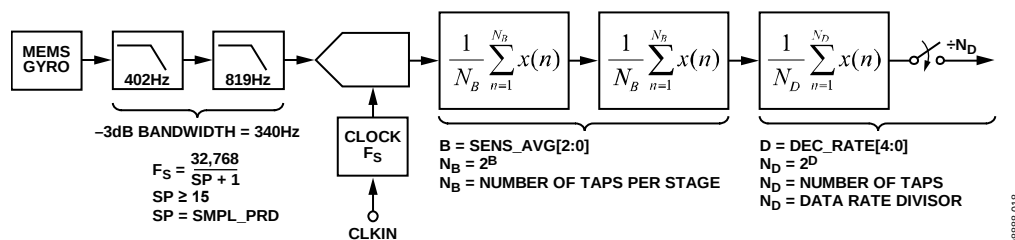

Figure 18. Sampling and Frequency Response Block Diagram
The GYRO_OUT2 register (see Table 11) captures the bit growth associated with the decimation filter shown in Figure 18, using a MSB-justified format. The bit growth starts with the MSB (GYRO_OUT2[15]), is equal to the decimation rate setting in DEC_RATE[4:0] (see Table 18), and grows in the LSB direction as the decimation rate increases. See Figure 14 for more details.
Figure 18 provides a block diagram for the sampling and digital filter stages inside the ADIS16135. Table 15 provides a summary of registers for sample rate and filter control.
[15:0]	Clock setting bits; sets F_s in Figure 18
The AVG_CNT register (see Table 17) provides user controls for the low-pass filter. This filter contains two cascaded averaging filters that provide a Bartlett window FIR filter response (see Figure 18). For example, set AVG_CNT[7:0] = 0x04 (DIN = 0xA004) to set each stage to 16 taps. When used with the default sample rate of 1024 SPS, this establishes a –3dB bandwidth of approximately 20 Hz for this filter.
[2:0]	Binary; B variable in Figure 18; maximum = 110 (6)
The DEC_RATE register (see Table 18) provides user control for the final filter stage (see Figure 18), which averages and decimates the output data. For systems that value lower sample rates, this filter stage provides an opportunity to lower the sample rate while maintaining optimal bias stability performance. The –3 dB bandwidth of this filter stage is approximately one half the output data rate. For example, set DEC_RATE[7:0] = 0x04 (DIN = 0xA204) to reduce the sample rate by a factor of 16. When the factory default 1024 SPS sample rate is used, this decimation setting reduces the output data rate to 64 SPS and the sensor bandwidth to approximately 31 Hz.
[4:0]	Binary; D variable in Figure 18; maximum = 1000 (16)